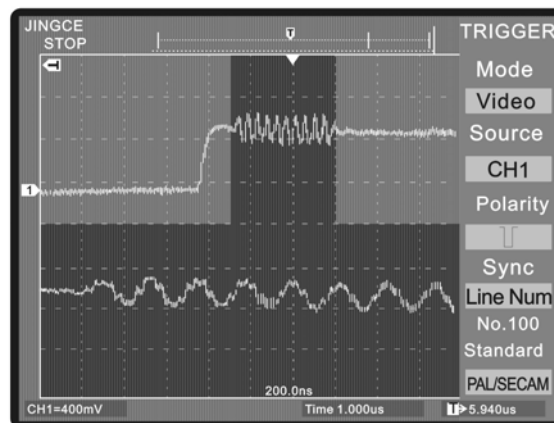

Figure 3-6 Demonstrating line100 color synchronization signal by delaying scan or video trigger mode
5. Adjust the vertical POSITION、 VOLTS/DIV、 SEC/DIV to see a complete waveform on the screen. See Figure 3-6 and Figure 3-7.